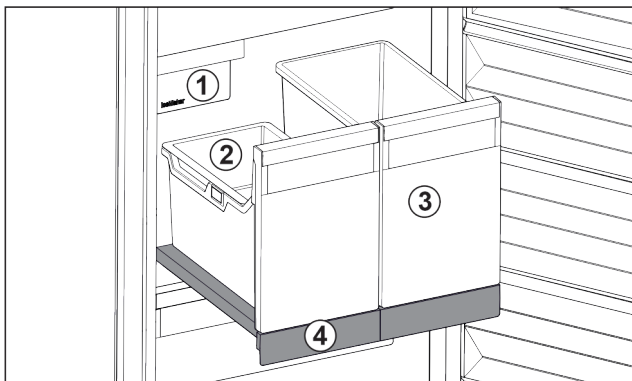

Fig. 168 Pull-out board with IceTower
There are two high (IceTower) containers on the pull-out board. Ice cubes from the IceMaker are collected and stored in the Fig. 168 (2) container. The container Fig. 168 (3) is suitable for storing tall foodstuffs or beverages such as pizzas or alcoholic drinks.